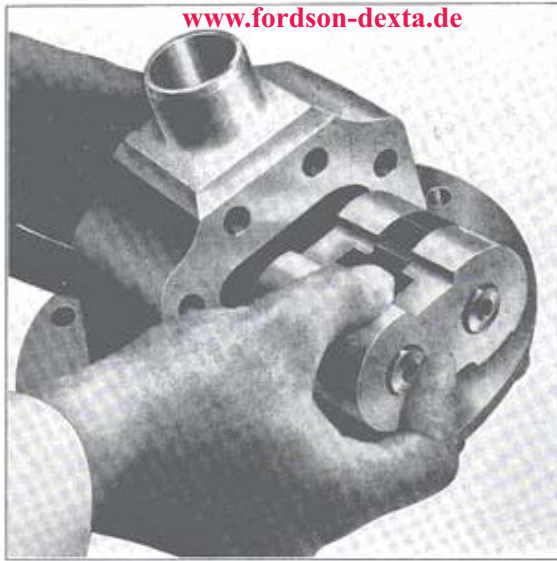

Fig. 44
4. Install the bearing and gear assembly in the pump housing, with the threaded end of the pressure driving gear pointing to the left and the small reliefs on the outer diameter of the bearings facing the high pressure (flange) side of the pump (see Fig. 44).